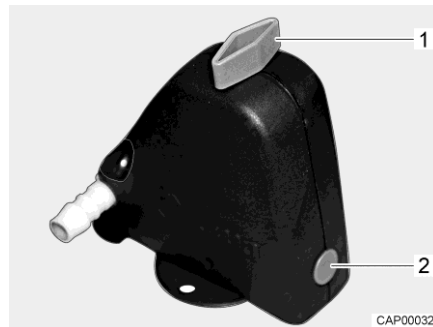
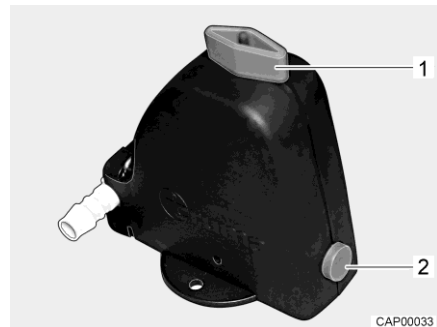

Fig. 90 Safety/drainage valve closed
Fig. 91 Safety/drainage valve open
- Open the safety/drainage valve (Fig. 90). To do this, turn the knob (Fig. 90,1) parallel to the safety/drainage valve. The push button (Fig. 90,2) jumps out. The open safety/drainage valve is shown in Fig. 91.